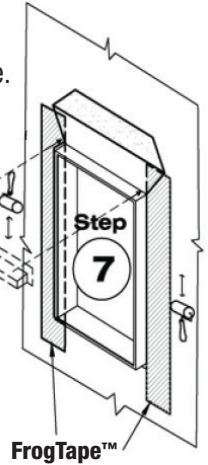

Figure 8 Apply jamb flashing.
Step 7. Precut FrogTape Pro Grade Flashing Tape for the jambs to extend a minimum of 6 in above and below the prepared rough opening. Peel off release liner and adhere FrogTape Pro Grade Flashing Tape over the jamb mounting flanges (aka nail fins) and over the top of sill flashing (see Figure 8). Use a roller to apply sufficient pressure along the entire surface of the tape to ensure adhesion and a continuous seal, eliminating any wrinkles, creases or trapped air beneath the tape.